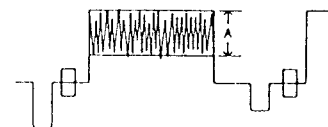

Figure 7
- 3) Adjust L207 until the amplitude A of the Red signal is minimum (See Fig. 7).